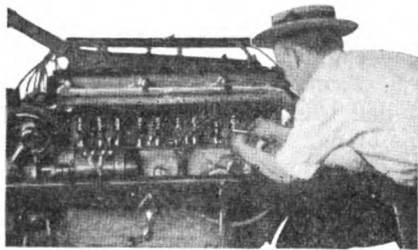

FIG. 2.—EXCESSIVE CLEARANCE FROM VALVE STEM TO PUSH ROD WILL CAUSE A TAPPING NOISE
1. *Valve Stem to Push Rod Clearance Excessive.* This will cause a tapping noise. The correct clearance space at this point as shown by Fig. 2, where a workman is making an adjustment, varies on different makes of cars from .002" to 1-64". If you do not know the exact amount for the car in question, it is safe to use a business card as a thickness gauge. Make sure that the lock or check nut is set tightly. Otherwise the continual hammering of the car's action will jar it loose and a "miss-